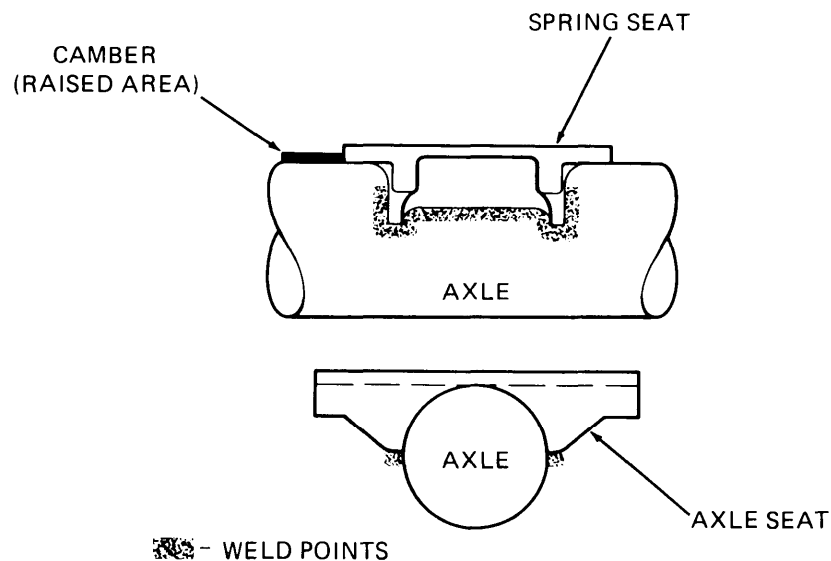

Figure 5-4. Axle Seat
- (4) Tack weld seats in place (fig. 5-4). Be certain axle seats are still level, parallel, properly located and aligned.
- (5) Weld axle seats to axle using 3/8 inch fillet welds on front and rear of axle seats. Welds are per Class 2, MIL-STD 1261.